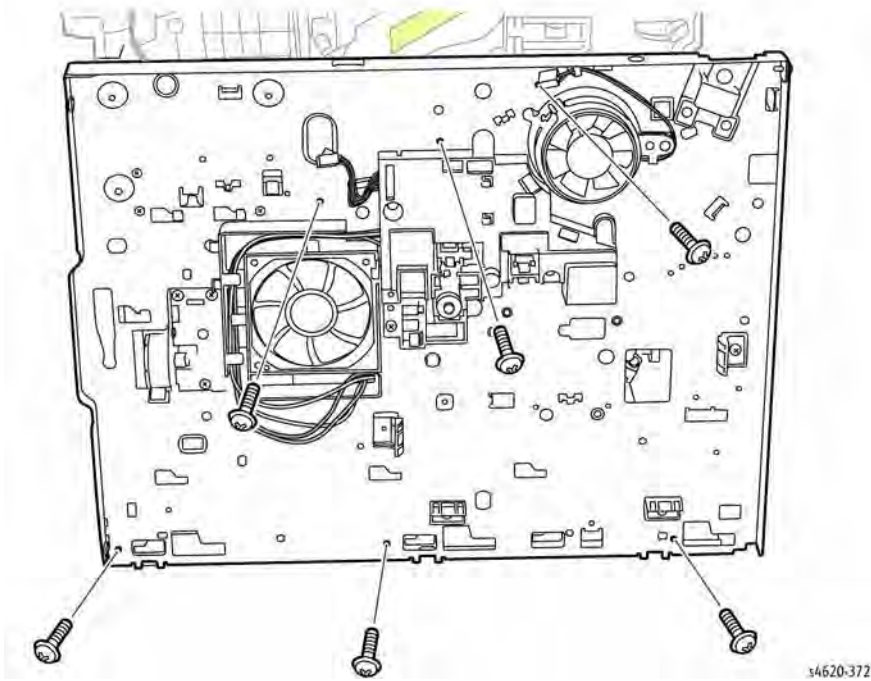

Figure 10 Remove the left side lower LSU frame and left chassis screws
- 29. Remove 3 (metal) screws that secure the left side of the lower LSU frame, Figure 10.
- 30. Remove 3 (metal) screws that secure the left side chassis to the bottom plate, Figure 10.